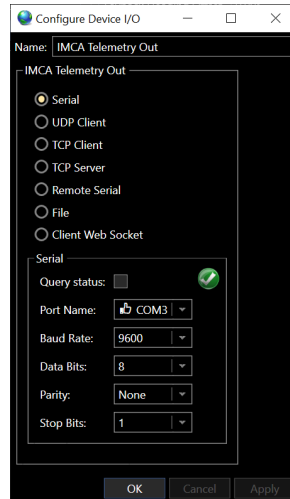

Figure 4 Configure Device I/O
3. Click the add  button, this will open the Configure Device I/O dialog, see Figure 4